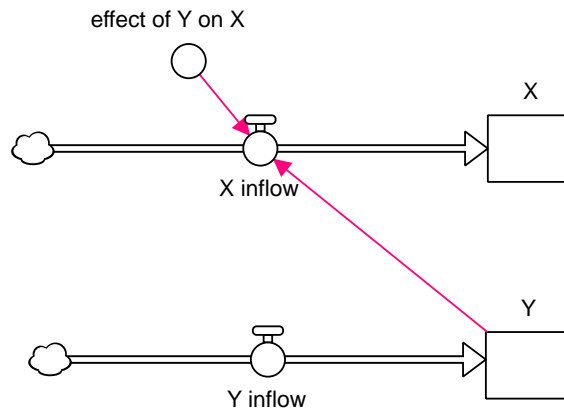

Figure 3: Stock  $Y$  influencing Stock  $X$
- Add the following in the model layer of the previous one stock model, Figure 3:
In the model of Figure 3, “Stock Impact” is the measure of the impact of *Y* on *X*. It is defined by the amount of acceleration in *X* due to the effect of *Y*, measured relative to the change in *X*, (Hayward & Boswell 2014, Hayward & Roach 2018).